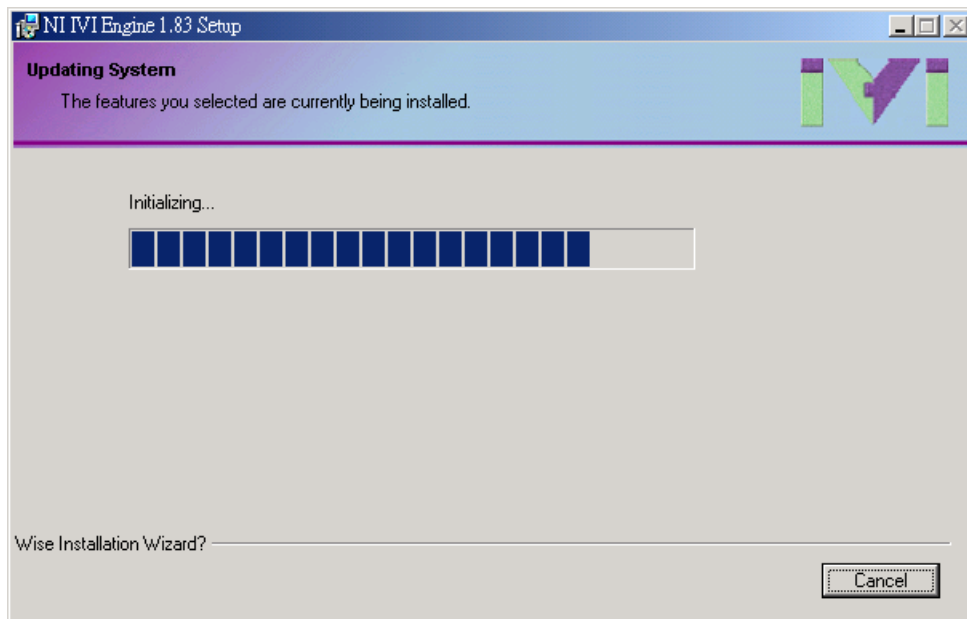

Figure 2-20 NI IVI Installation Progress
12. Figure 2-20 shows the installation progress of NI IVI and if any mistake is found, click **Cancel** to stop the installation.